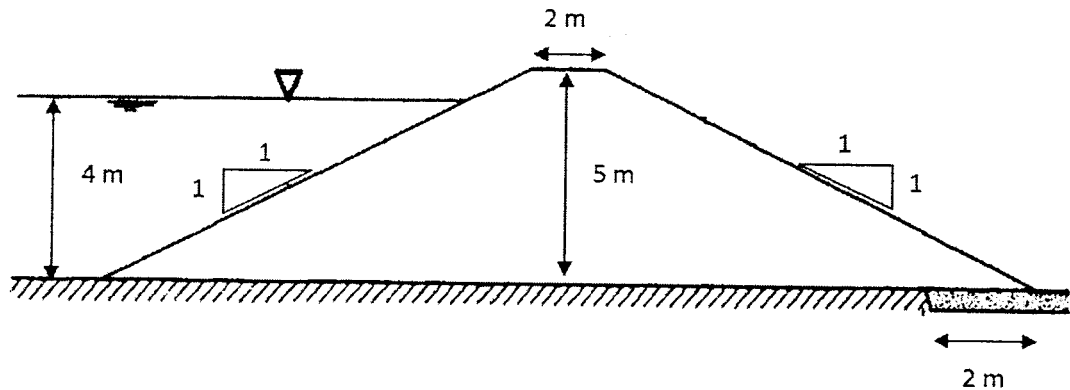

Figure 4 (b) / Rajah 4 (b)
- (b) The cross-section of a homogeneous earth dam is shown in **Figure 4 (b)**. The coefficient of permeability is 4.5×10^{-6} m/s. Sketch a flow net and evaluate the quantity of seepage in m^3/day per meter run with the toe filter as shown in **Figure 4 (b)**.